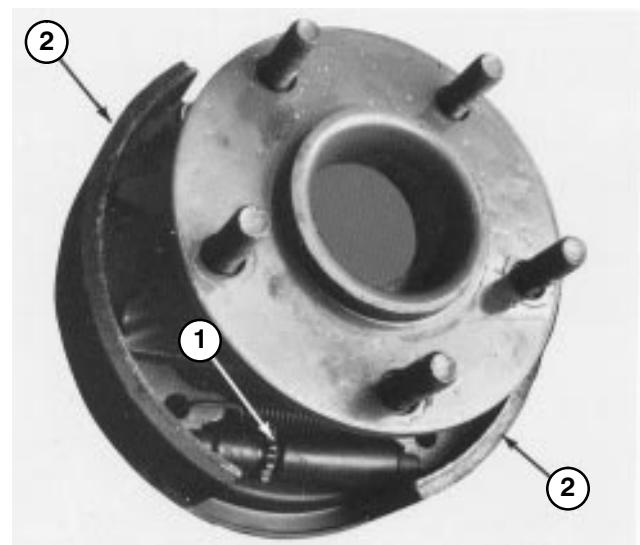

Figure 63
6. Using a brake adjusting tool or screwdriver, rotate star nut (Fig. 62) down until brake drum (Fig. 63) locks because of outward pressure of brake shoes (Fig. 63).